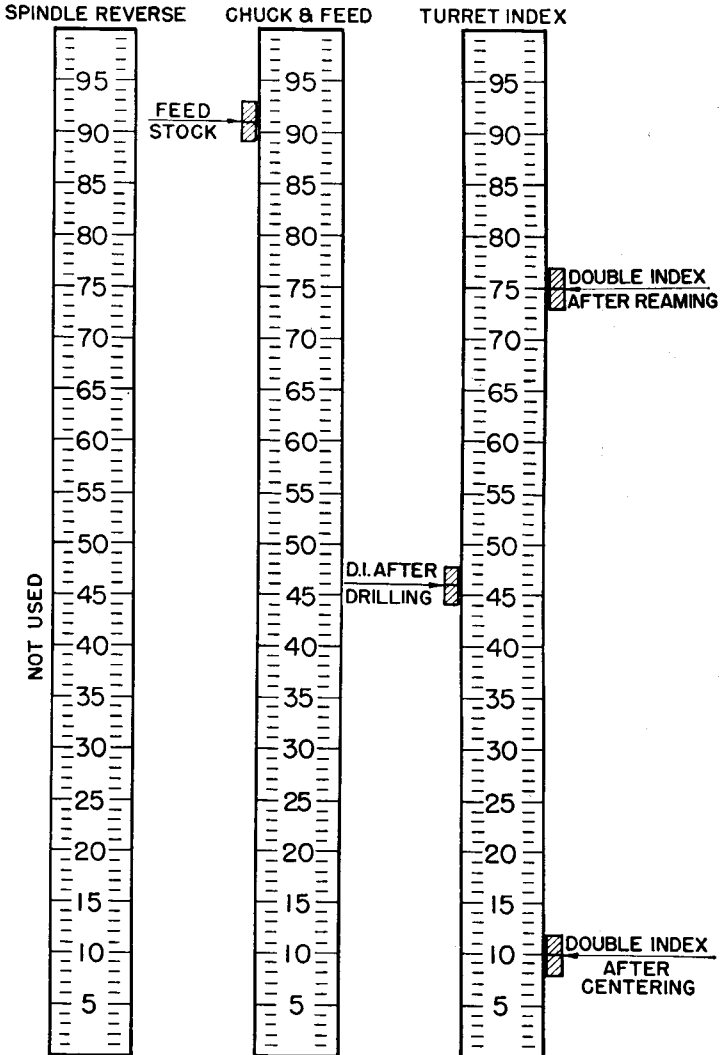

Fig. 3. Dog Settings for Job No. 6
- (e) The spindle does not change speed and no dogs are necessary on the spindle reverse carrier. Fig. 3 shows approximate dog settings for all carriers.